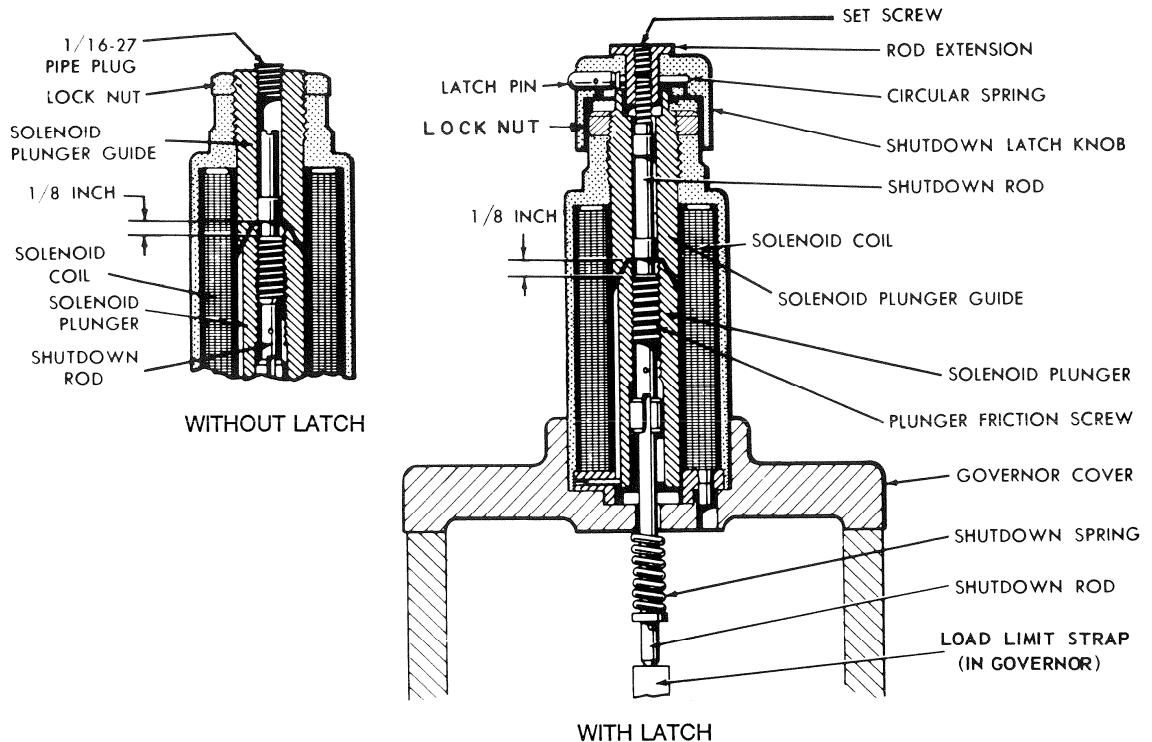

Figure 1. De-Energize to Shut Down Models
The de-energize to shut down models shown in Figures 1 and 2 will shut the engine down on loss of current to the solenoid. The solenoid plunger moves up to allow the engine to run. To start an engine when no current is available, lift the solenoid plunger manually by means of the shutdown-latch knob (see Figure 1). As it approaches the top of its stroke, the lock pin may be pressed in to latch the shutdown-latch knob just below its upper position. This permits starting and running the engine. ***Operating with the latch pin holding the solenoid at the top of its stroke eliminates the possibility of using the solenoid to shut down the engine.***
1. Position the shutdown rod assembly in the solenoid plunger with the end of the plunger friction screw 3 mm (1/8 inch) inside the solenoid plunger nose as shown in Figure 1. This adjustment is necessary only when the shutdown device has been disassembled for cleaning or replacing parts. New assemblies sent from the factory will have this adjustment completed.